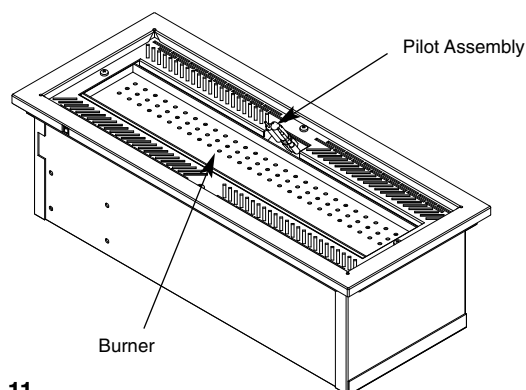

Fig. 11
1. **Ceramic Components and Fuel Bed** - Debris from any source should be removed with a soft brush. Please ensure that any debris including soot deposits are removed from the appliance and not left on the fuel bed. It is recommended that the user should, on a regular quarterly basis, carefully remove all ceramic components and thoroughly clean the burner and the pilot assembly (Fig. 11). Any build up of debris in this area could affect the operation of the appliance